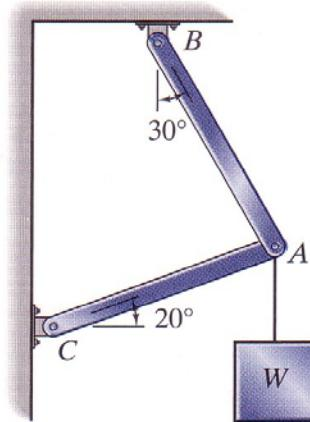

Figure Q6[c]
- [c] Figure Q6[c] shows a truss member AB and AC subjected to a load W at A. When unloaded, bars AB and AC are each 1 m in length and have a cross-sectional area of 1290 mm^2 . Their modulus of elasticity is 11 GPa. If a weight of 50 kN is suspended from the truss at A, what are the changes in length of the two bars?